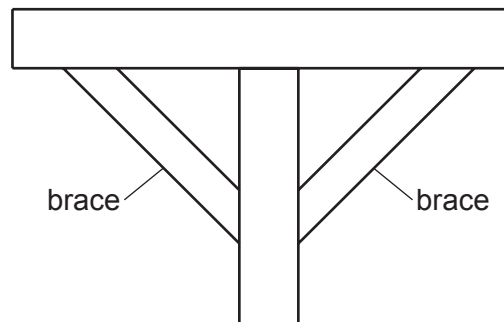

Fig. 10.4
- (iv) Fig. 10.4 shows braces used on the mortise and tenon joint.